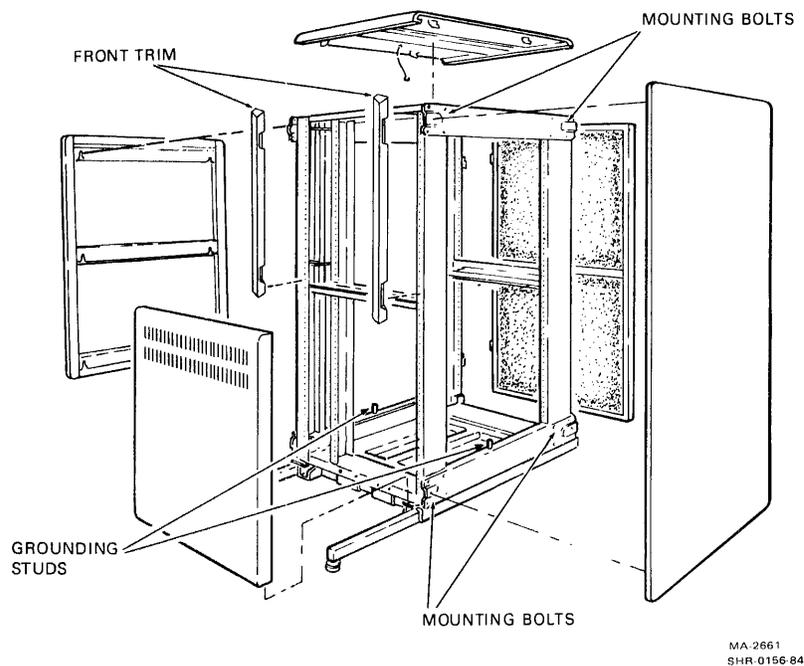

Figure 2-15 Cabinet with Side Panels and Top Cover Removed
10. Remove the right side panel from the TA78. Grasp the panel on both sides and lift it off the four mounting bolts. If it does not lift off, try loosening the mounting bolts. In this case, remove the front panel trim to access the upper-front mounting bolt. To remove the trim, lift it up and out (Figure 2-15).